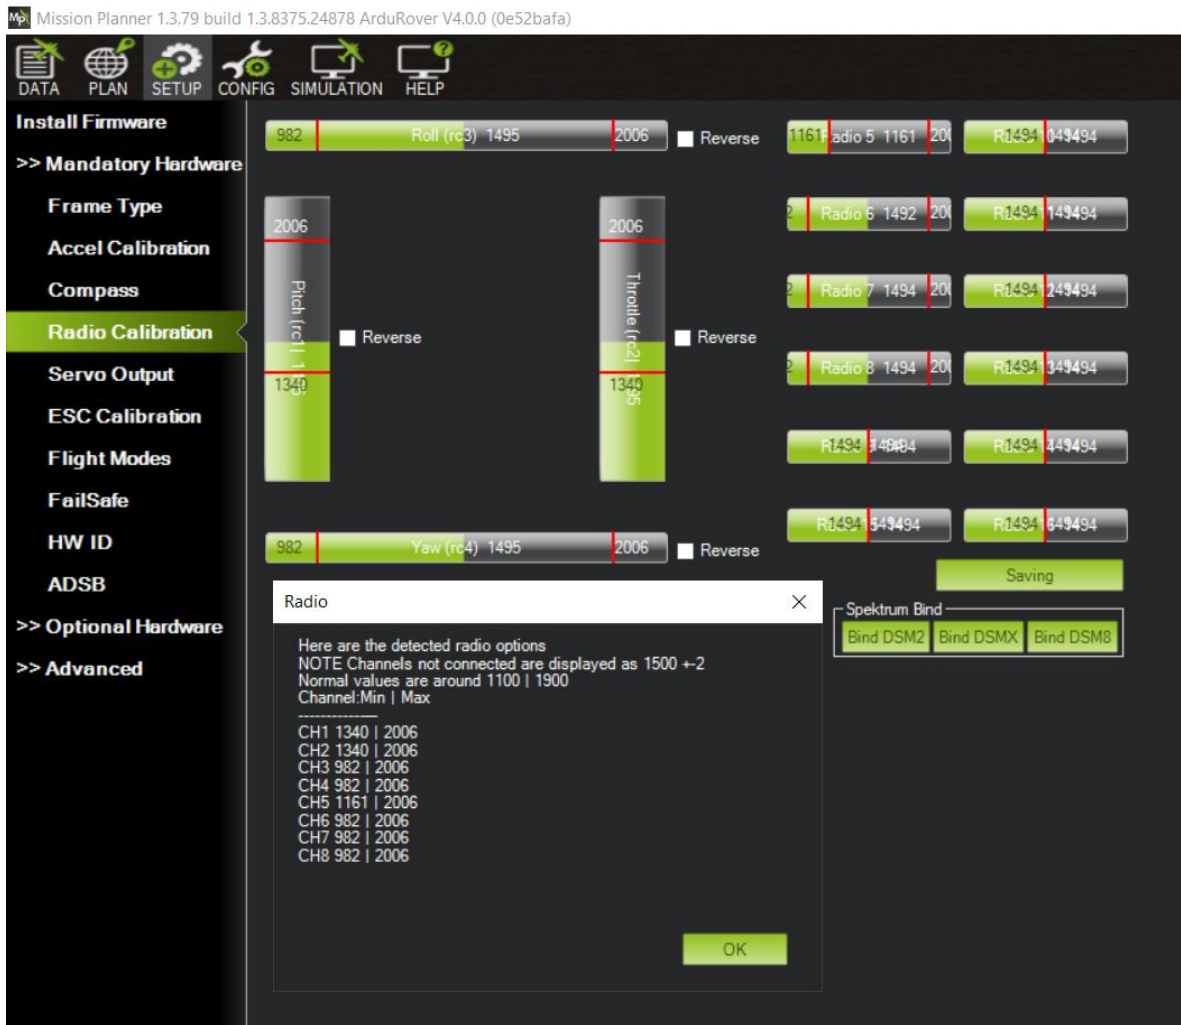

Figure 57: Radio Calibration Verification
13. A page will popup indicating the new min and max values. Press OK. (Refer to Figure 57)